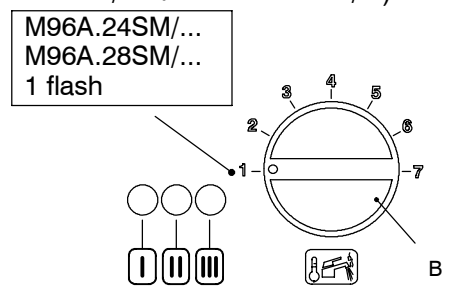

Fig. 11
At this step it is possible to visualize the current setting by keeping the reset button D pressed for more than 5 seconds. The lamps F will flash a number of times corresponding to the setting Fig. 11 (once for M96A.24SM/... and M96A.28SM/...).
- 12 To change the setting turn the knob B on a position corresponding to the boiler model (Fig. 11). By turning the knob B, the lock-out signal lamp E blinks quickly (2 per seconds) indicating that